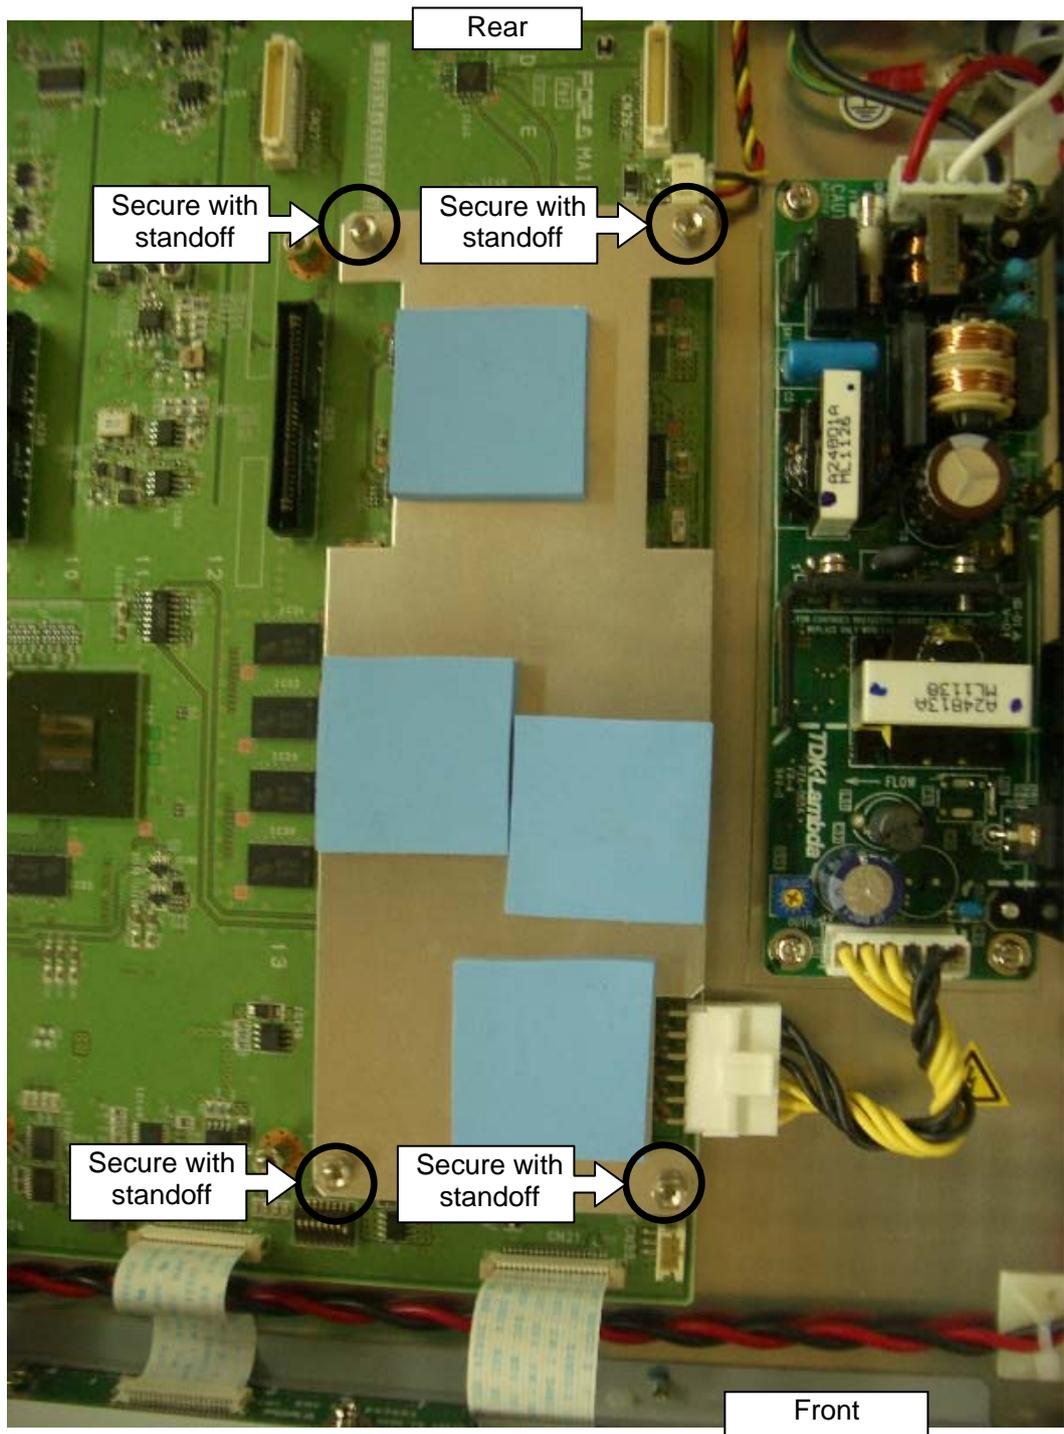

Fig. 30 Shield attachment
- Place the shield with the attached heat conductive sheet side up, and secure with the supplied shorter standoffs (4 mm) as shown in Fig. 30.